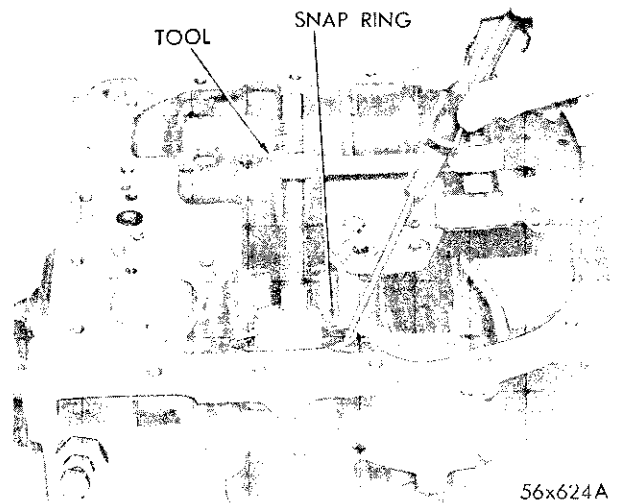

Fig. 49—Removal and Installation of Kickdown Piston Rod Guide Snap Ring
(1) Install Tool C-3529 or C-3289 (modified) and apply sufficient pressure on the kickdown piston rod guide to permit the removal of the snap ring (Fig. 49).
(2) Remove the tool from the case.
(3) Remove the piston rod guide, piston spring and piston rod.
(4) Using pliers, Tool C-484, remove the kickdown piston from the transmission case.